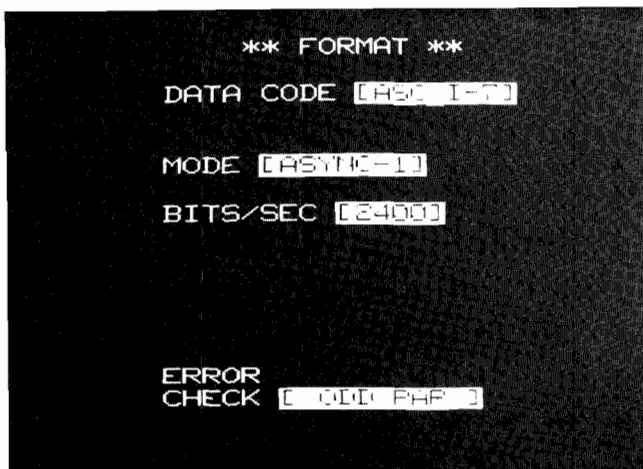

Figure 16-13 1640A Factory Data Link Format Selection (Communications Monitoring)
- a) Press the FORMAT key to display the Format parameters on the 1640A display. Configure the Format as shown in figure 16-13.